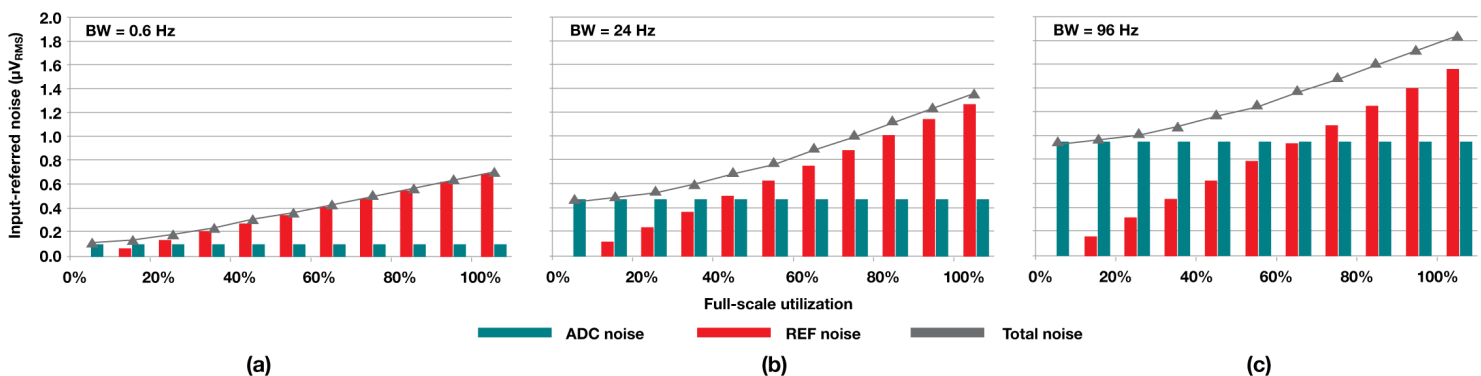

Figure 46. Limiting the ENBW reduces total noise: 0.6 Hz (a), 24 Hz (b) and 96 Hz (c).
- Reduce the system ENBW.** A third option to reduce the amount of reference noise passed into the system is to limit the overall ENBW. One way to limit ENBW is by reducing the antialiasing or reference filter cutoff frequencies. However, TI recommends using C0G-type capacitors for input signal-path filters due to the C0G's low voltage and temperature coefficients. Typical C0G capacitors used in signal-chain design are only available up to 10 to 15 nF, inherently limiting how low the antialiasing filter cutoff can be. Conversely, reference filters may employ higher-capacitance, X7R-type capacitors due to the voltage reference's virtually constant DC output voltage. For each filter type, use low-drift, low-impedance resistors (<10 k Ω) because the resistor's thermal noise increases with impedance and may begin to dominate the signal-chain noise. Another way to reduce the system ENBW is to slow down the ADC's output data rate. Figure 46 shows how reducing the ADC's output data rate decreases both the ADC and reference noise simultaneously. For example, between ENBW = 96 Hz (left) and ENBW = 0.6 Hz (right), the reference noise at 100% utilization has decreased by a factor of 2.3, while the ADC noise has decreased by a factor of 10, resulting in far less total noise.